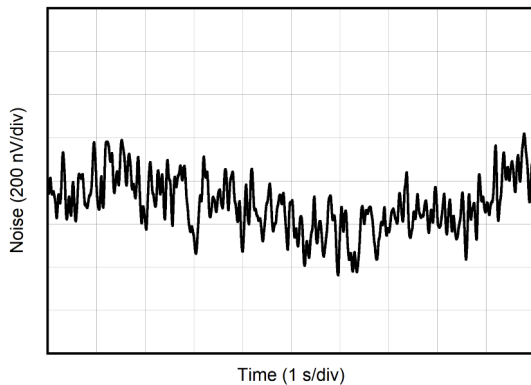

Figure 7-23. 0.1-Hz to 10-Hz Voltage Noise (RTI)
0.1-Hz to 10-Hz Voltage Noise (RTI), $G = 1\text{ V/V}$	Figure 7-23